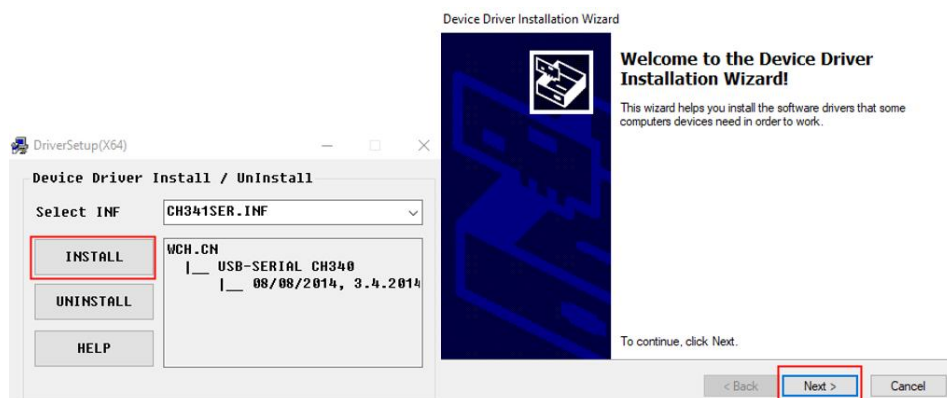

Figure 2.5 The Device Driver Installation Wizard dialog box
- Step 4** Click **OK** to follow the on-screen instructions to continue with the installation. During the installation, the Driver Installation dialog box is displayed, , two drivers needs to be installed, as shown in Figure 2.5.